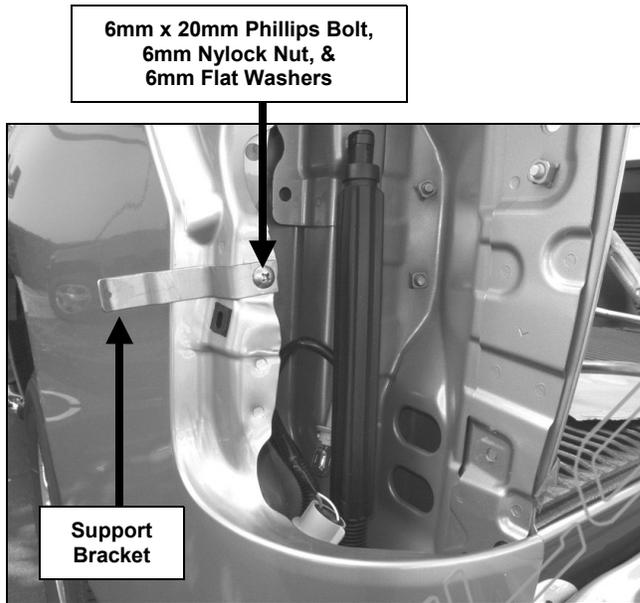

Figure 1
- Mount (1) Support Bracket onto factory hole on the vehicle using (1) 6mm x 20mm Phillips Bolt, (1) 6mm Nylock Nut, and (2) 6mm Flat Washer (Figure 1). Tighten at this time.